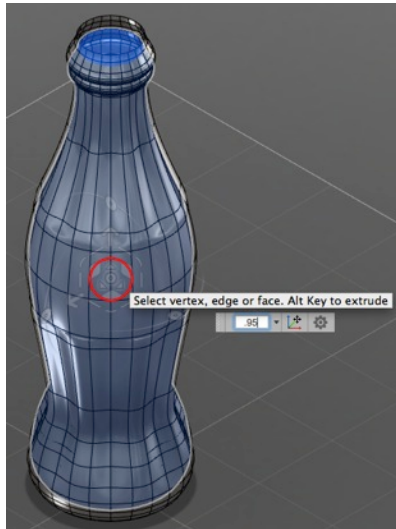

Fig. B14
- b. Select bottle copy and scale down uniformly to 0.95 (using the center handle that looks like a doughnut) (Fig. B14).